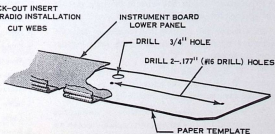

FIGURE 2
3. Using the paper template under the instrument board lower panel, locate and drill two .177 dia. (#16 drill) holes and one $\frac{3}{4}$ " hole in the lower panel. (See figure 2).